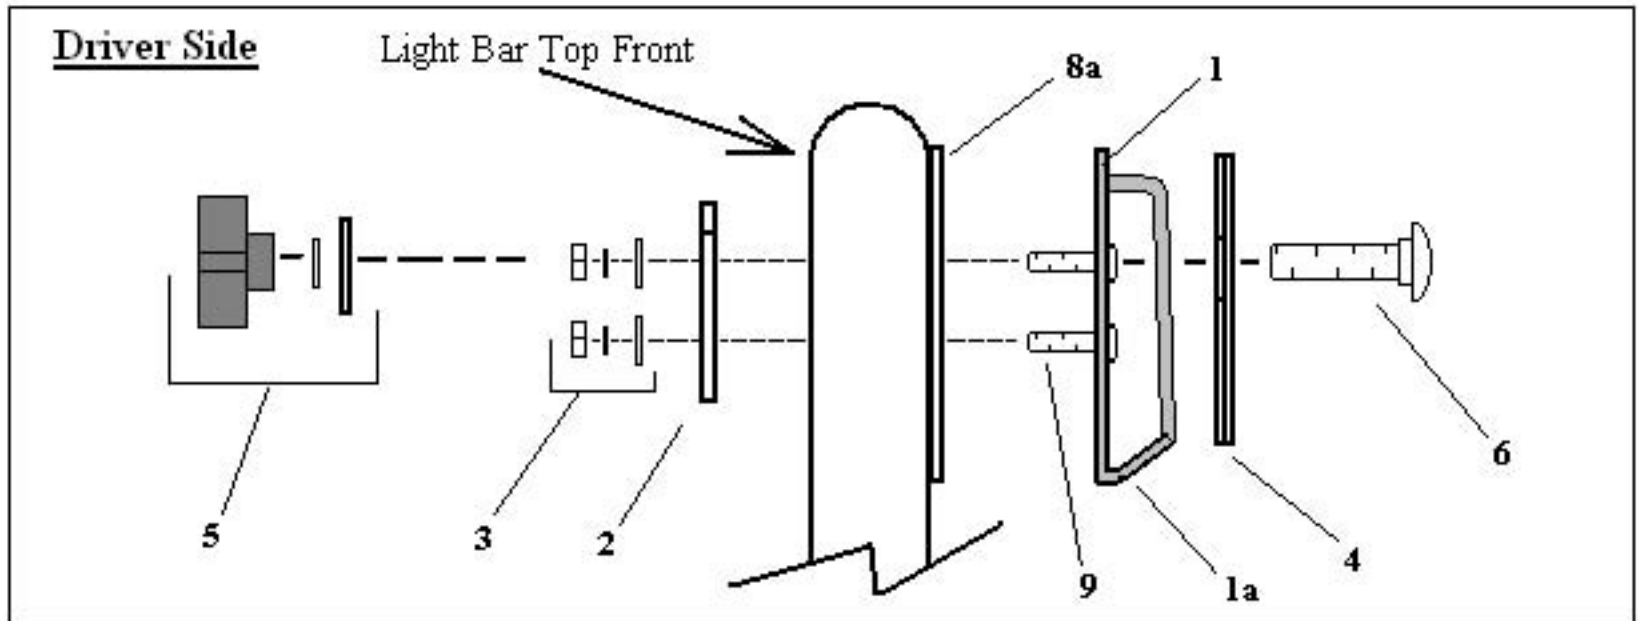

FIG. 2
- 6- Refer to page 4 Fig. 2 and Fig. 3 begin attaching Driver side "Quick Release" saddle (1) by sliding both screws (9) through square holes located on the Light Bar Driver side plate (8a) as shown in Fig. 3. Place clamp (2) as shown onto front side of Light Bar plate (8a) and over "Quick Release" saddle screws (9). Continue by using the 5/16" nuts, lock washers and flat washer (3) previously removed over clamp (2) and onto screws (9) snug down only at this time.
- 7- Refer to page 5 **Step 1** while working on the driver side place safety plate (4) onto "Quick Release" saddle (1) as shown then refer to page 4 Fig. 2 and assemble the 3/8-16 carriage bolt (6) through safety plate (4) then through "Quick Release" saddle (1). Place the 3/8 hard washer, lock washer and finally hand knob (5) in place and tighten but not fully.
- 8- Refer to page 5 **Step 1** place Safety pin (7) towards the front side of the light bar over the lower cross bar (8c) as shown to prevent any potential interference. Continue now to the passenger side and attach the passenger "Quick Release" saddle in the same manner.
- 10- Refer to page 5 **Step 2** guide the two round bolt holes (10) in plate (16) of the roof rack over and onto the bolt heads (9) of the "Quick Release" saddle (1) as shown in **Step 2**. While holding the roof rack in place over bolt heads (9) fully loosen the hand knob (5) *not shown* holding safety plate (4) in place then lift and swing safety plate (4) horizontally as shown in **Step 2** and **Step 3** in the direction of letters B,C and D. Continue as shown in **Step 4** by sliding safety plate (4) horizontally under roof rack tubing (11 a) and over roof rack tubing (11 b) finally aligning safety pin holes (4a) of the safety plate (4) and "Quick Release" saddle (1). Fully tighten hand knob (5) as shown on page 4 Fig 2 then apply the same procedure to the opposite side.
- 11- Refer to page 5 **Step 4** and thread safety pin (7) through the aligned holes (4a) of both the Safety plate (4) and "Quick Release" saddle (1) then place spring over the top of the safety pin to prevent release.
- 12- Refer to page 4 Fig 2 while the roof rack is held in place by the "Quick Release" saddles (1), Safety plates (4) and hand knobs (5) fully tighten nuts (3) **"DO NOT BEAR DOWN WITH ALL YOUR MIGHT"** use only enough force to flatten lock washers and apply some tension. Double check that both hand knobs (5) are fully tightened.